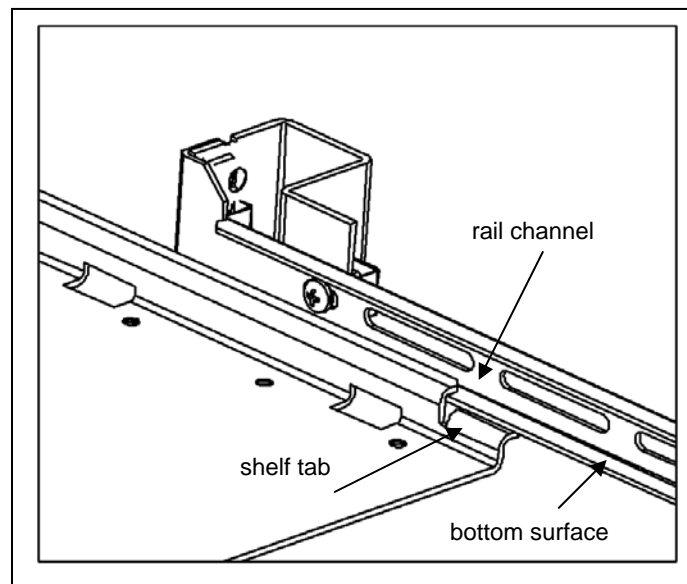

Figure 4. Installing the Sliding Shelf.
Facing the rack, slide the shelf (item 7) onto the bottom surfaces of the rail channels. The tabs at the back of the shelf pass underneath the channel surface (Figure 4). The tabs allow you to extend the shelf from the cabinet, providing a working surface for mounting the instruments.